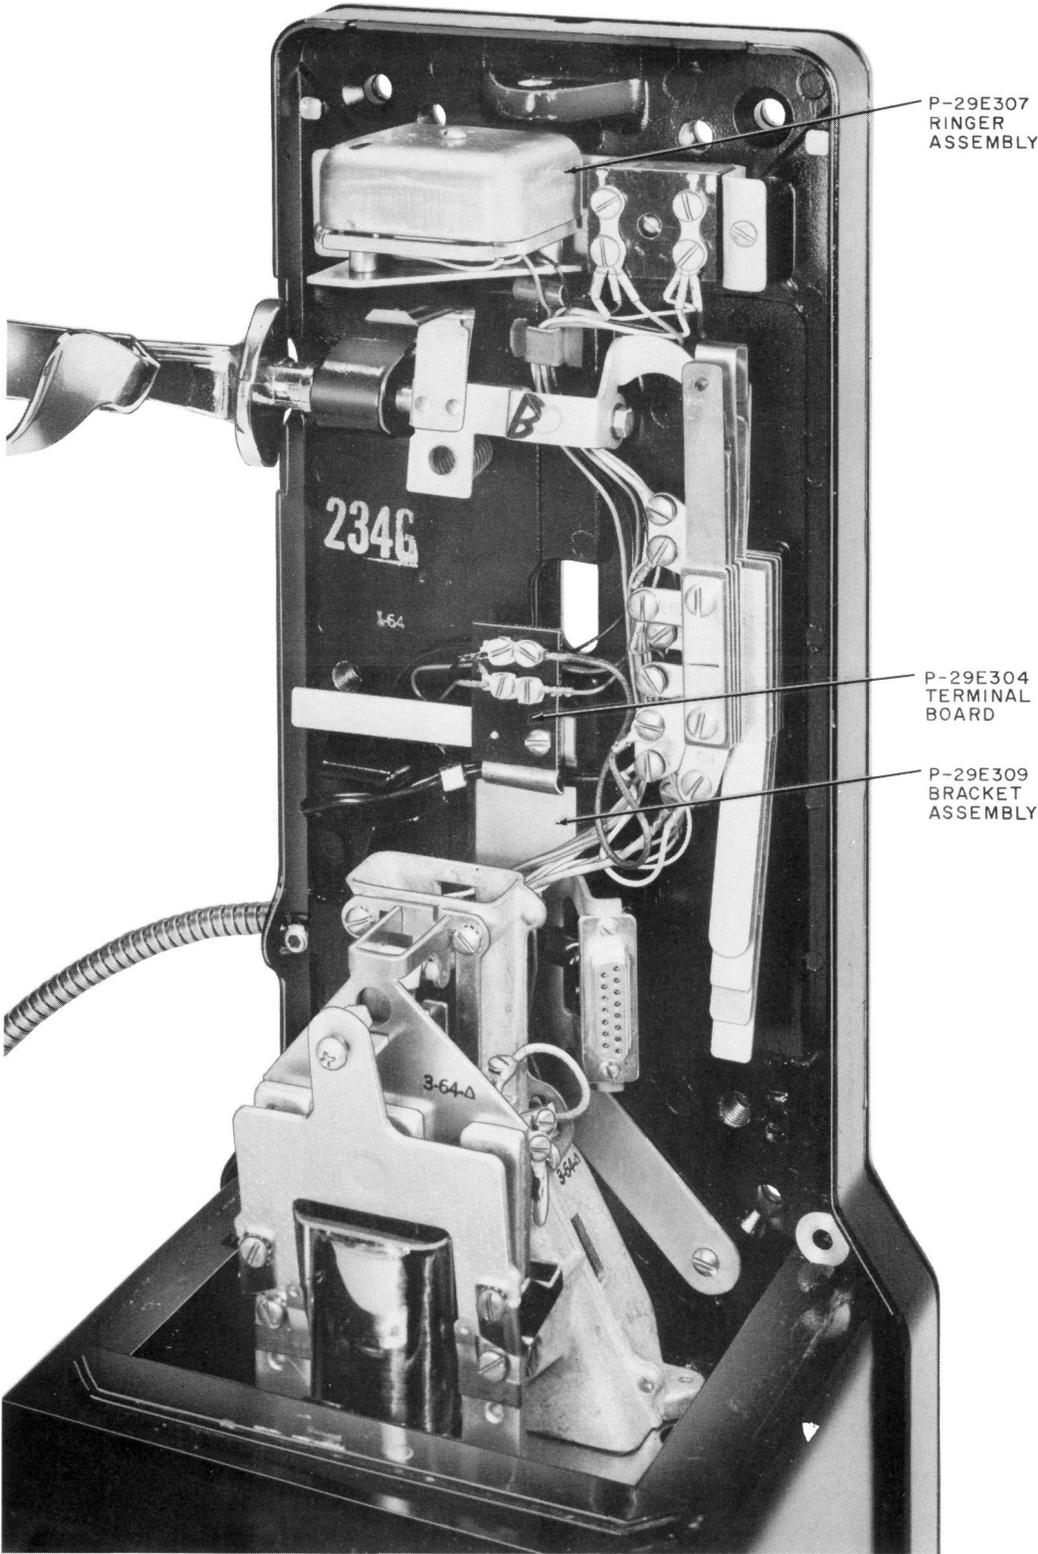

Fig. 2 — Backplate Assembly With D-180120 Kit
3.01 Modification of backplate assembly (Fig. 2):